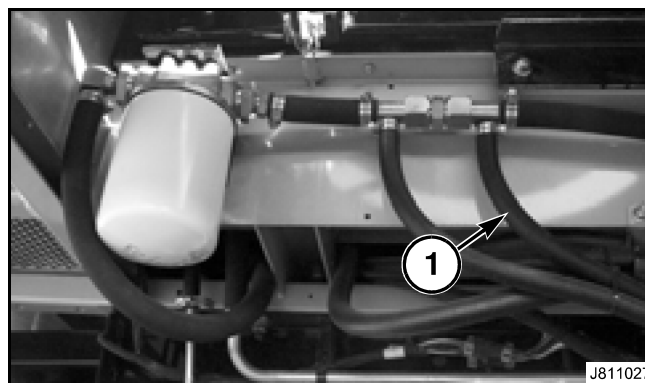

FIG. 159
FIG. 159: Locate the cooler to the motor flush line hose (1) at the hydro return filter. Disconnect the hose from the tee and remove the hose with the axle and valve assembly.